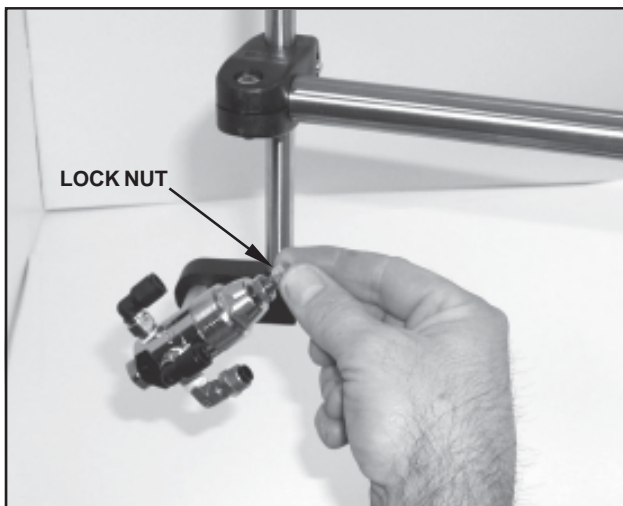

FIGURE 15
- 1- To adjust the fluid adjusting screw, use a 7/16" wrench and loosen the lock nut on the rear of the marker body by turning it counter-clockwise as shown in Figure 15.